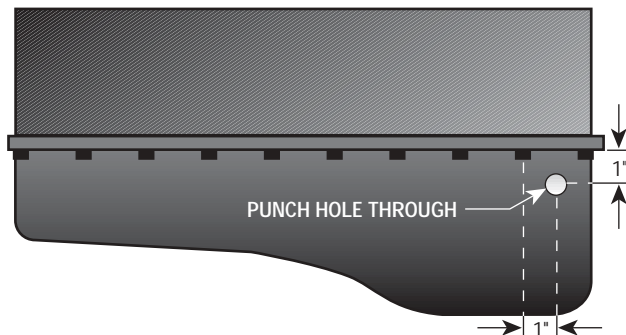

Fig. 4-a
- A. To provide an oil drain for the supercharger, it is necessary to make a hole in the oil pan. Locate and mark the hole location. (See Figs. 4-a.) It is best to punch the hole rather than drill.